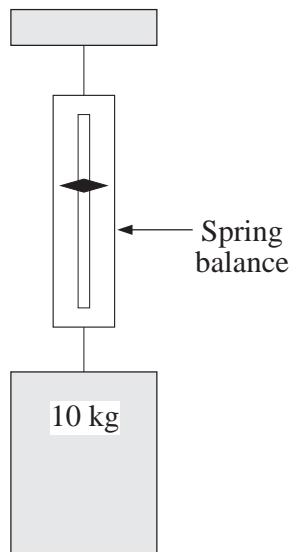

FIG. 11
- (e) A spring balance reads in newtons (N). In Figure 11, determine the reading on the spring balance.